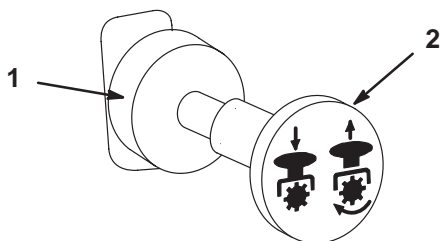

Figure 18
3. Pull out on the power take off (PTO) switch to engage it (Fig. 18).
To disengage, push the PTO switch to the Off position (Fig. 18).